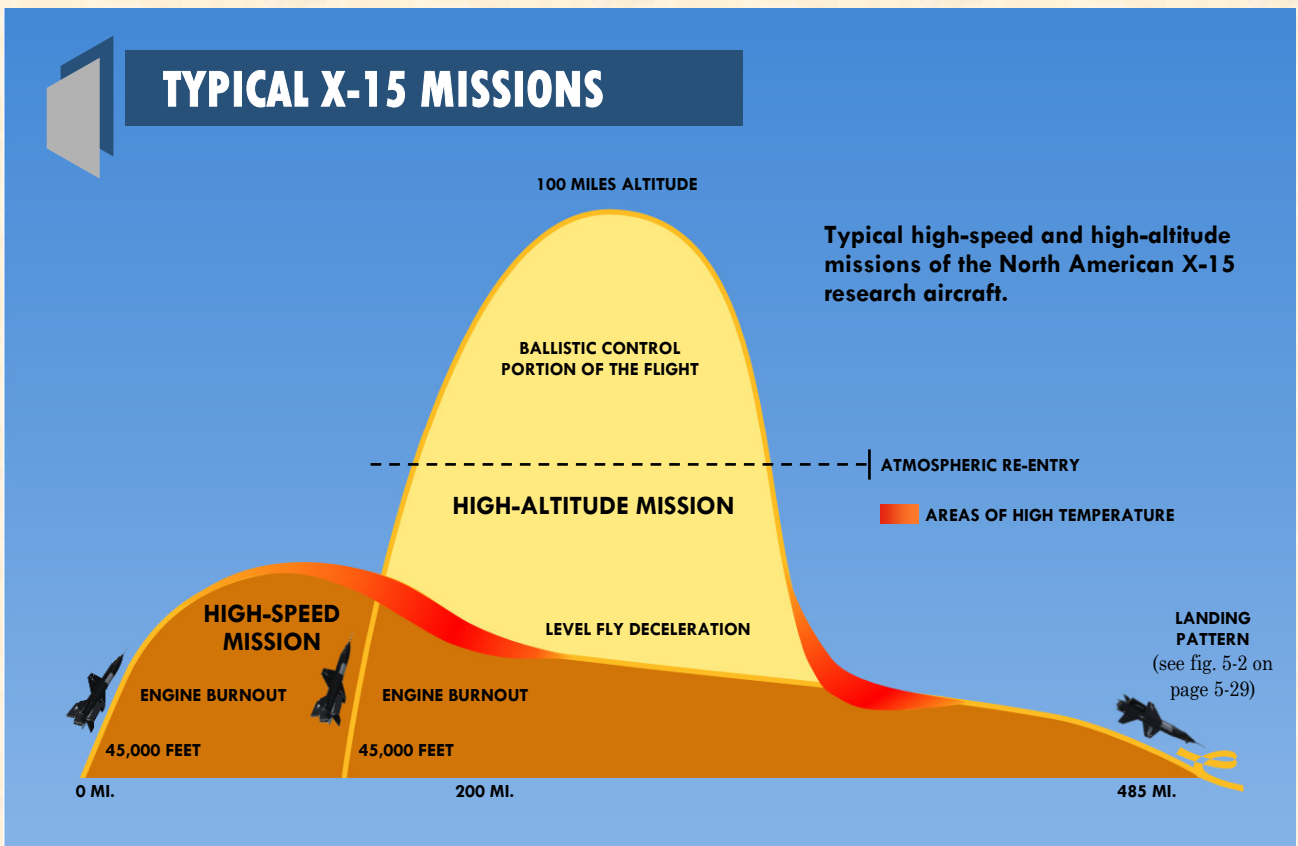

Figure 5-1
After the rocket engine is ignited, the X-15 for Flight Simulator will accelerate at a very high rate to high Mach numbers and will reach high altitudes in a matter of seconds (see fig. 5-1). Refer to the FS aircraft **Reference information tab** of the Kneeboard (F10) for air-speed vs altitude limitations (see also appendix 3). Use the throttle and the speed brakes to increase or decrease speed depending on the mission's objectives and altitude.
In a typical X-15 mission (see fig. 5-1), a normal "burnout" will occur after more or less 90 seconds of XLR-99 engine operation, after all the propellants are exhausted.
2. Pull the joystick **SMOOTHLY** to perform a 5-G to 7-G pullout to level flight at about 70,000 to 60,000 feet, after reentry (see fig. 5-1 on page 5-22).